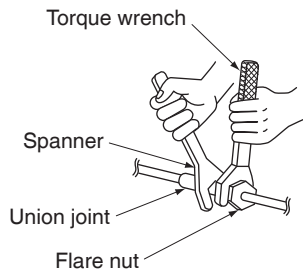

Fig. 12
- Be sure to use both a spanner and a torque wrench together, when connecting or disconnecting pipes to/from the unit. (Refer to Fig. 12)